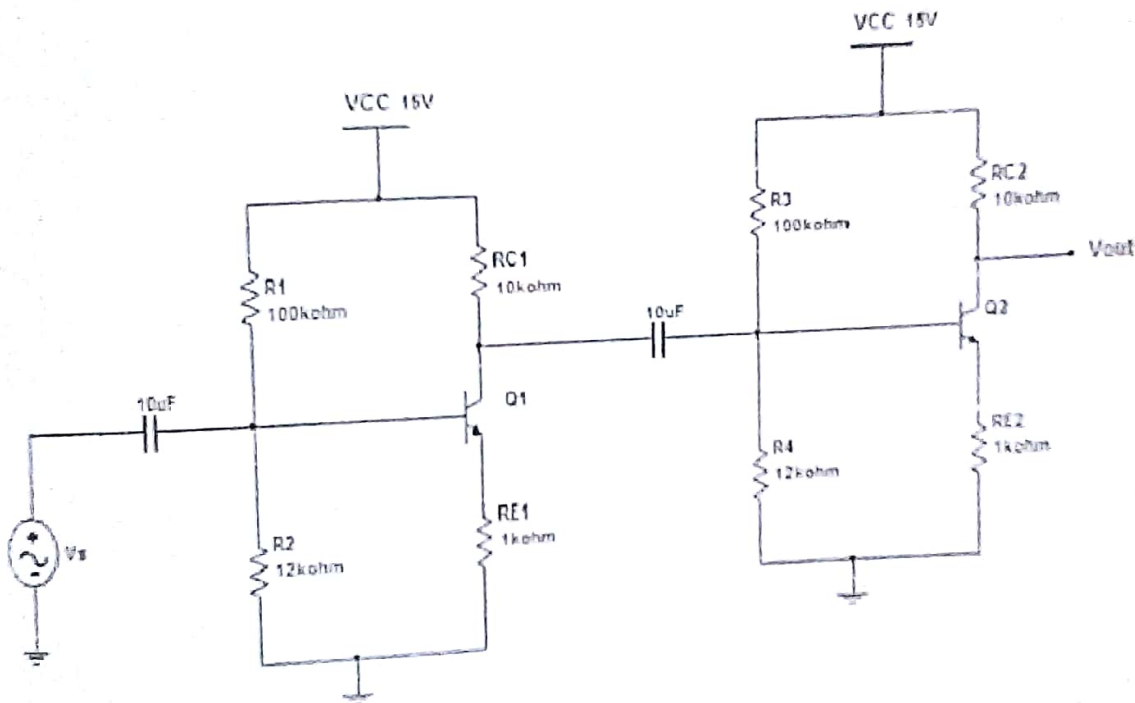

Fig. 1: Two-Stage Linear Amplifier
The two-stage linear amplifier is shown in Figure 1. It uses two common emitter (CE) circuits, with the PNP and NPN transistors connected in a cascade Amplifier. R_A and R_B are not considered part of the amplifier, but are only used to attenuate the input signal from the function generator by a known factor. To analyze the amplifier, start with the DC parameters. Use measured values of components in your calculations. The steps to solve for the DC parameters for this amplifier are:
1. Connect the circuit shown in Fig.1. Compute the DC parameters for the amplifier listed in Table 2.
2. Construct the two-stage bipolar transistor amplifier shown in Figure 1. The function generator should be turned off. Measure and record the DC voltages listed in Table 2. Your measured and computed values should agree within 10%.
5. Connect the function generator voltage to the divider composed of R_A and R_B as shown in Figure 1. (Note: The purpose of these resistors is to attenuate the generator signal by a known amount; they will not be considered part of the amplifier). Turn on the function generator and set V_s for a 0.5 Vpp sine wave at 10 KHz. (Check voltage and frequency with the oscilloscope). Measure the AC signal voltage at the amplifier's output ($V_{out(Q2)}$) and record the value on the last line of Table 4. Then use V_{in} and V_{out} to find the measured overall gain, A_v . Record the measured overall gain in the first line of Table 4.